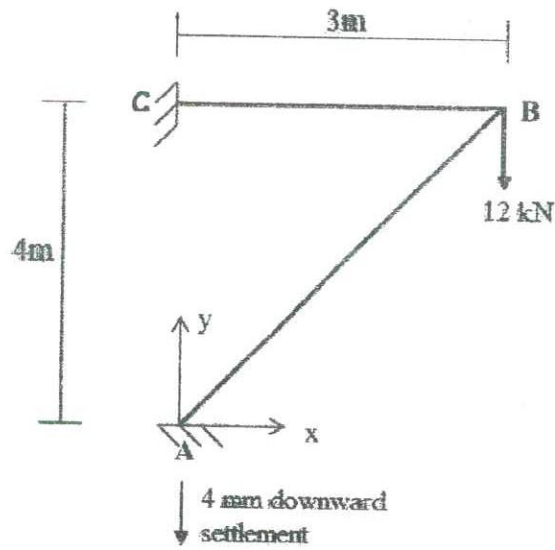

Fig. Q2
Q2. A two-dimensional frame structure is shown in Fig. Q2. It has been found that the support A has been settled by 4mm downward and a point load of 12 kN has been applied at node B. Member lengths are as indicated in the Fig. Q2.
a) Matrix stiffness method is governed by degree of kinetic indeterminacy ( $KI^{\circ}$ ). Explain briefly what is kinetic indeterminacy and determine  $KI^{\circ}$  for the plane structure shown in Fig. Q2. [3.0 Marks]
- c) Determine the displacements and support reactions for the bar combination shown in Fig. Q2. Bar AB is made of Aluminium with Young's modulus  $E_a = 80 \times 10^9 \text{ N/m}^2$  and cross section  $A_a = 750 \text{ mm}^2$ . Bar BC is made of steel with Young's modulus  $E_s = 200 \times 10^9 \text{ N/m}^2$  and cross section  $A_s = 1200 \text{ mm}^2$ . Horizontal load of  $P = 250 \text{ kN}$  is applied at point B.